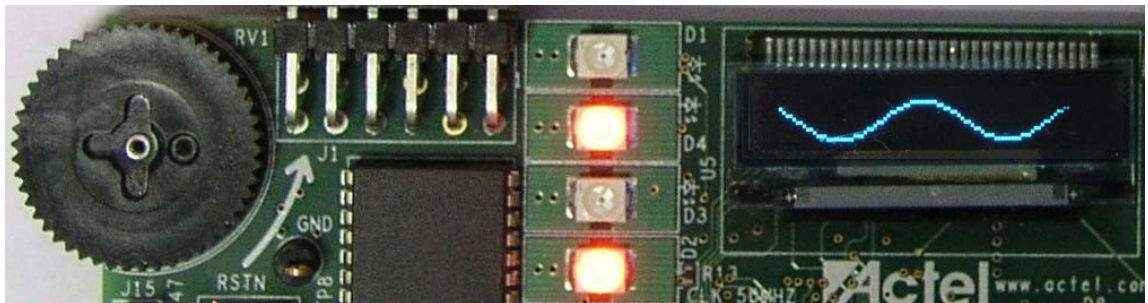

Figure 2-27 · Sine Wave
3. Click the Sine Wave button. The OLED displays a sine wave, as shown in Figure 2-27.